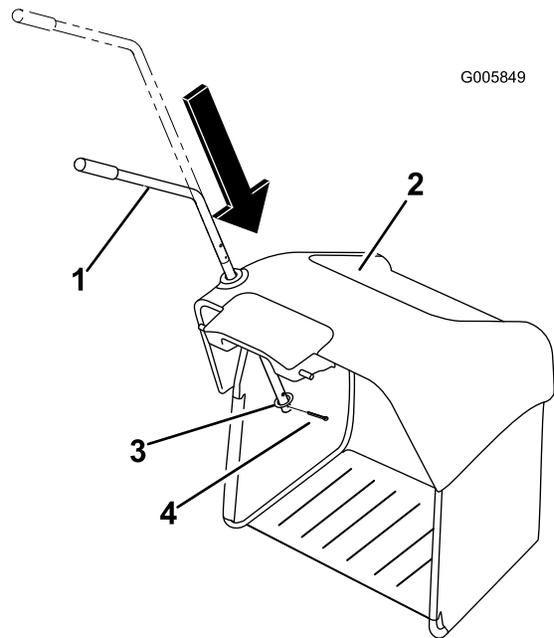

Figure 3
2. Install the DFS lever into the opening on the top of the collection bag Figure 3.
3. Install a washer over the end of the DFS lever inside the collection bag (Figure 3).
4. Secure the lever assembly with a cotter pin and bend the ends to hold it place (Figure 3).